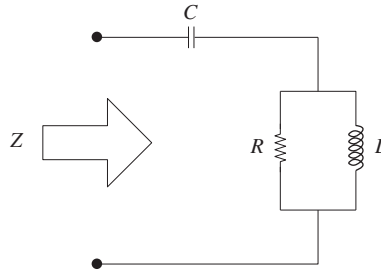

Figure 5.11 Total impedance of the circuit for example 5-3.
In the circuit shown in Fig. 5.11, the impedances of the various components are $Z_R = R$, $Z_L = jX_L$, and $Z_C = \frac{1}{j}X_C$, where $j = \sqrt{-1}$. Suppose $R = 10$, $X_L = 10$, and $X_C = 10$, all measured in ohms.
- (b) Suppose a voltage $V = 50\sqrt{2} \angle 45^\circ$ V is applied to the circuit shown in Fig. 5.11. Find the current I flowing through the circuit if I is given by